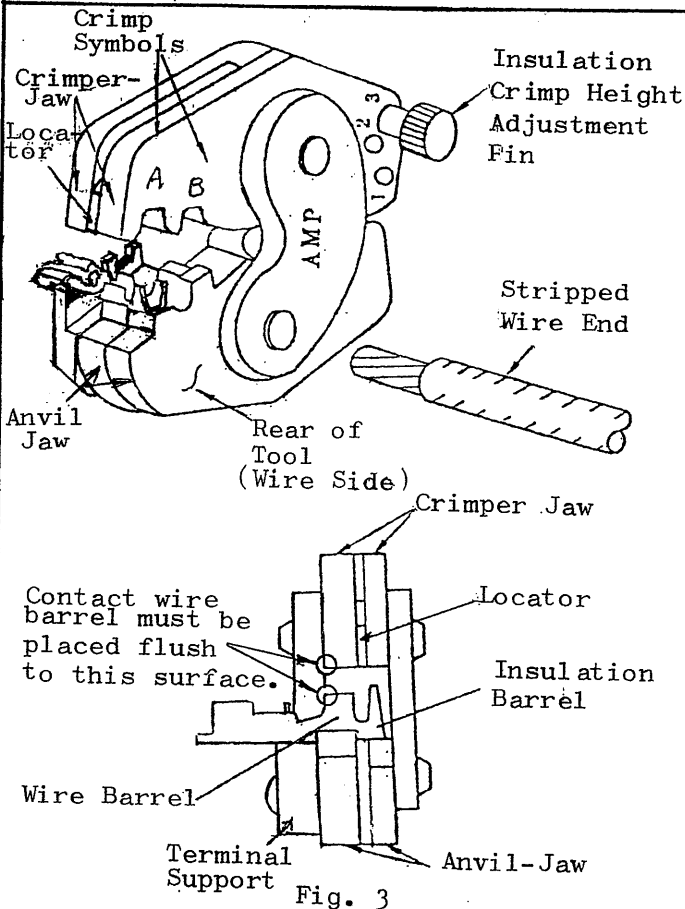

Fig. 3
- e) Looking into the inside of the die, insert the contact into the applicable crimping die with the insulation barrel side first, and "U" open side upward. Align contact under the crimper where the locator fits in the locator slot of the contact. Holding the contact in place, close the handles lightly to hold the contact in place, where the contact wire barrel is beginning to enter the crimper. See Fig. 3.